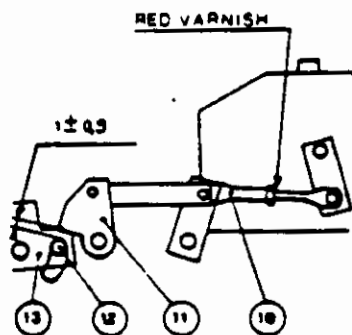

Fig. 12
a. Tripping (Fig. 12)
1) Adjustment. With breaker in closed position and release reset, back off red nut until nearly all threads are exposed. Tighten same nut until distance between tripping striker (11) and lug (12) of the latch (13) shown in the normal position is $1 \pm 0.5 \text{ mm}$ (0.039 ± 0.020 inches).